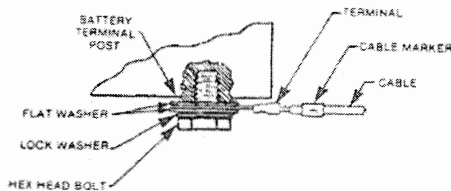

FIGURE 13
02.46 Connect the battery fuse (or circuit breaker) lead to the negative terminal on one battery (Figure 13).